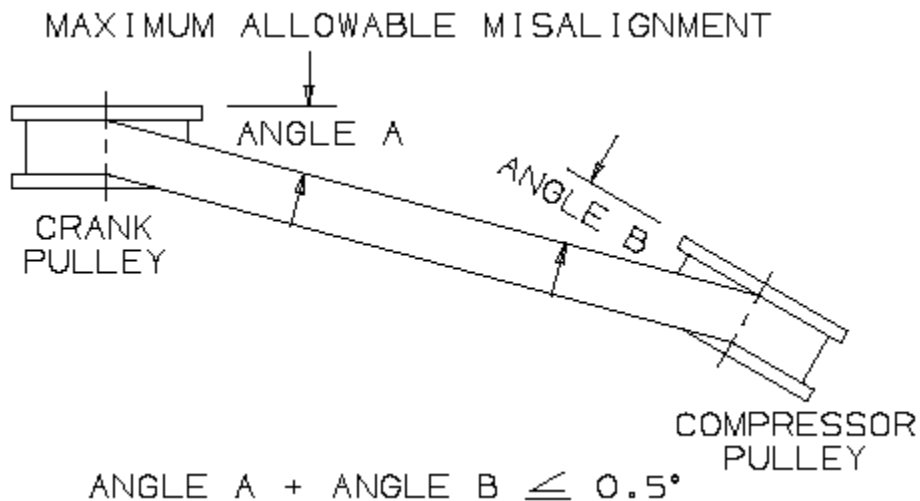

Figure 4: Belt Alignment
5. Install new belt (NF PN 862711) as shown in Figure 3. You will have to adjust the turnbuckle of the compressor plate in order to loosen/tighten the belt. Ensure belt is properly aligned as shown in Figure 4. Re-torque compressor plate nuts to 172 Ft/Lbs.